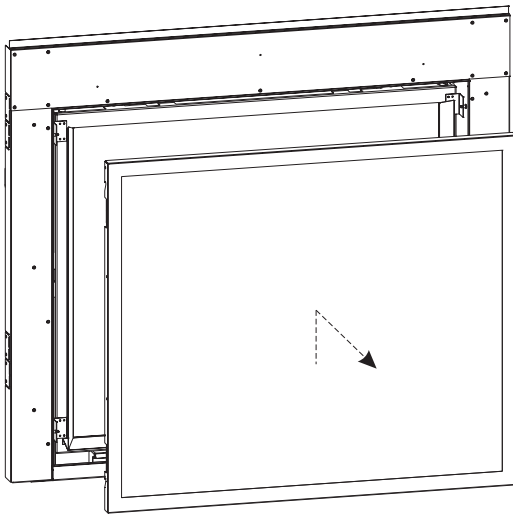

Figure 75
2. Use the Glass Latch Tool to grip the latch bar and pry it over the Glass Frame hook flanges. Tilt the Glass Frame towards you and pull upwards to remove it from the unit. **See Figures 75 and 76.**